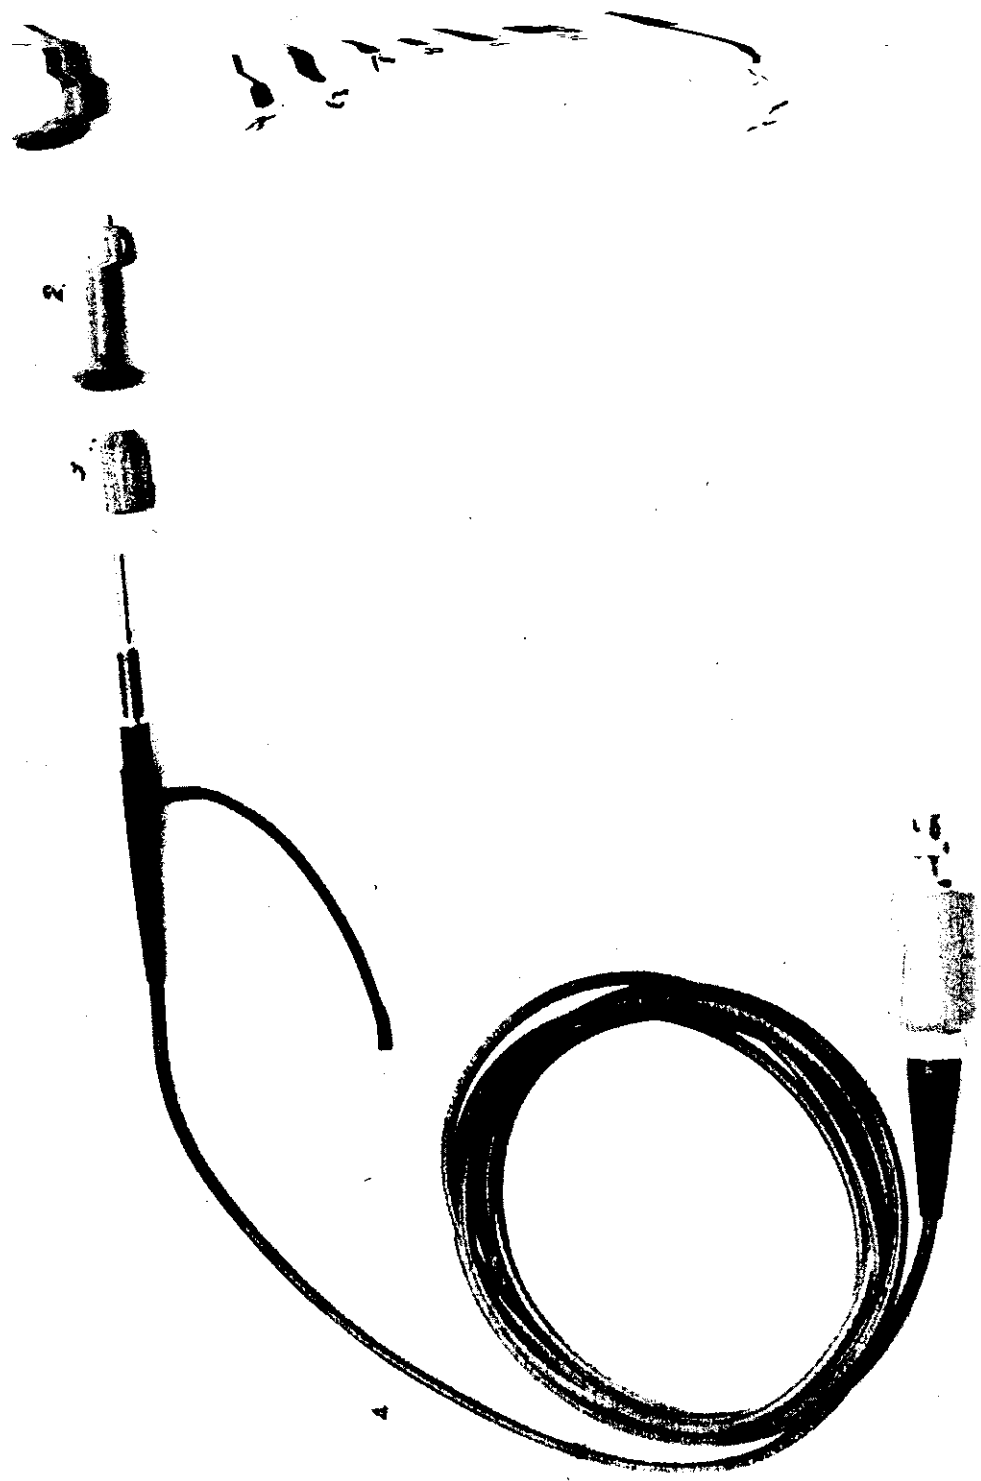

FIGURE 3. ATTENUATOR PROBE SHOWING REPLACEMENT PARTS
- d. Adjust capacitor in probe by rotating the inner probe sleeve assembly either in or out until the best possible square wave response is obtained as shown in Figure 2a. Once the correct probe adjustment is obtained, the adjusting sleeve may be locked in place by turning the outer cap housing (see Figure 3) up against the sleeve.
(Figure 3)